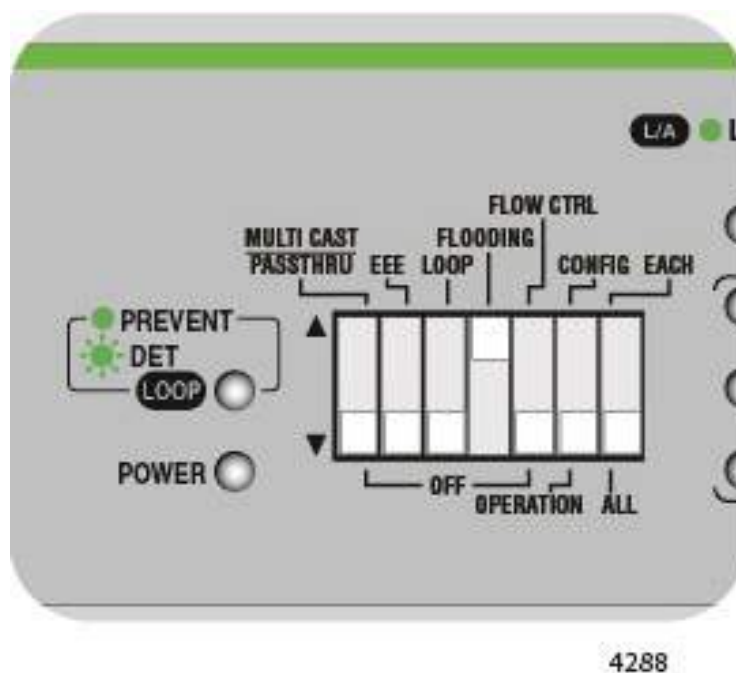

Figure 49. DIP Switch Settings for Enabling Flooding
1. Set DIP switch # 4 to the UP position to enable this feature. See Figure 49.